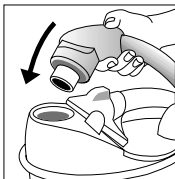

Figure 1
- To attach the Steamer Hose, insert the hose cap into the Steamer housing and twist it clockwise to securely lock the hose onto housing. (See Figures 1, 2 and 3.)